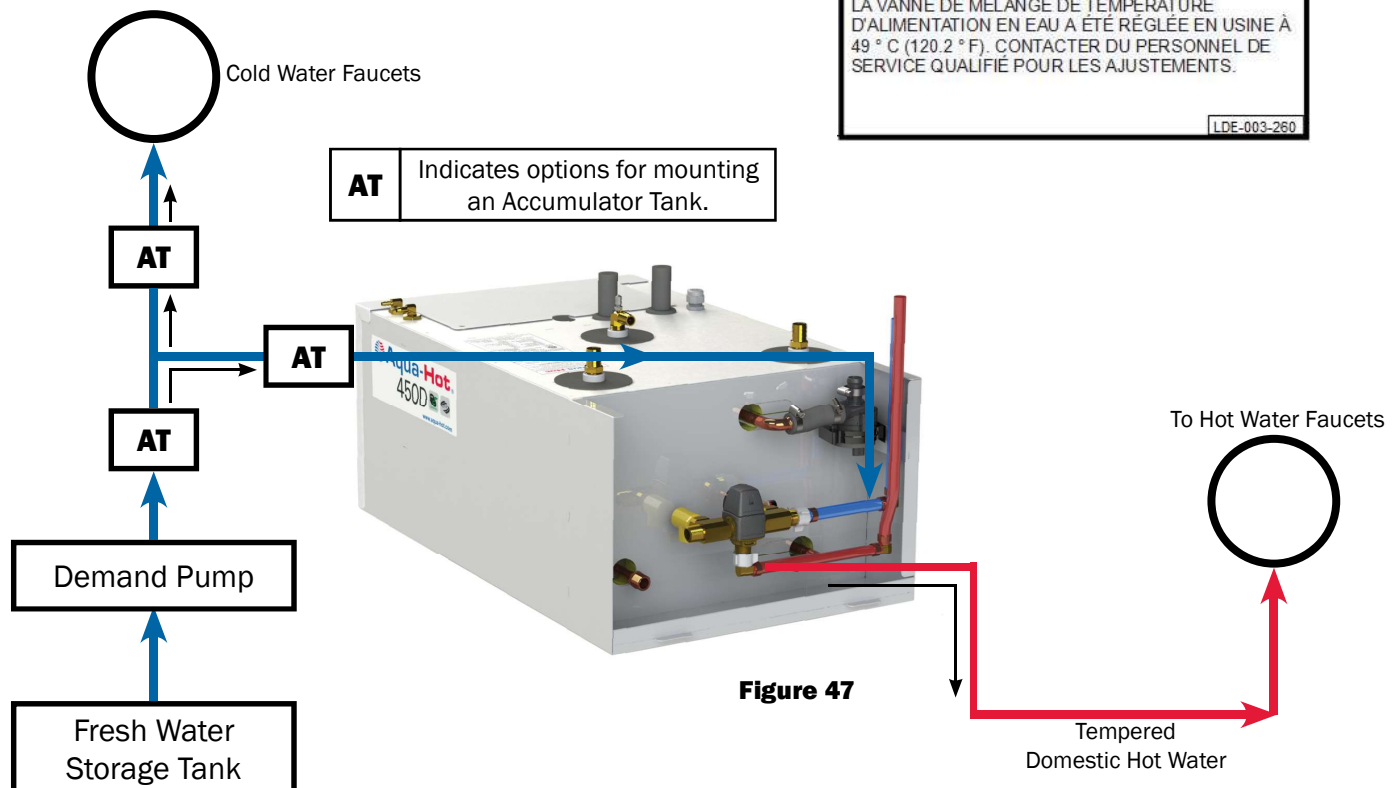

Figure 47
- Plumb the domestic water system according to Figure 47.
Please note it may be necessary to utilize an accumulator tank within the domestic water system. Reference Figure 47. Although the 450D is equipped with a pressure relief valve, the use of an accumulator tank will help prevent excessive “weeping” of the valve. Manufactured pressure relief valves will cause the “seat” in the valve to deteriorate, which can cause the valve to fail permanently. Be sure to reference the RVIA’s (Recreational Vehicle Industry Association) technical publication titled “Recreational Vehicle Plumbing Systems”. To obtain a copy of this publication, contact RIVE at (730) 620-6003 or visit them online at www.rvia.org.